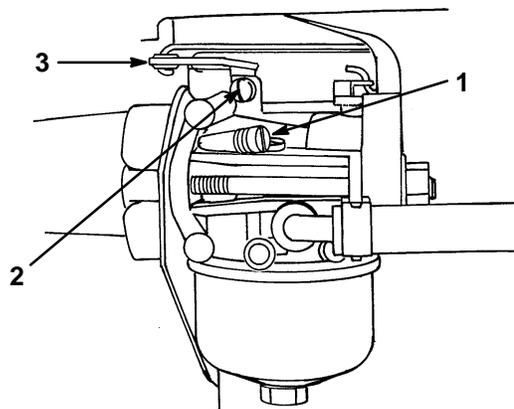

Figure 27
- Gently turn the idle mixture screw (Fig. 27) clockwise until it just closes. Do not force (tighten) the idle mixture screw because the carburetor could be damaged.
- Open the idle mixture screw (Fig. 27) one turn counterclockwise. This setting allows you to start the engine.
- Hold the carburetor throttle arm against the idle speed screw (Fig. 27). Adjust the idle speed screw so the engine idles at 1750 rpm. Check the rpm with a tachometer.
- While you continue holding the throttle arm against the idle speed screw, slowly turn the idle mixture screw (Fig. 27) in (clockwise) until the engine begins to slow (lean mixture). Next, turn the idle mixture screw out (counterclockwise) until the engine begins to run roughly (rich mixture).
- Now rotate the idle mixture screw (Fig. 27) midway between the lean and rich mixture until the engine runs smoothly.